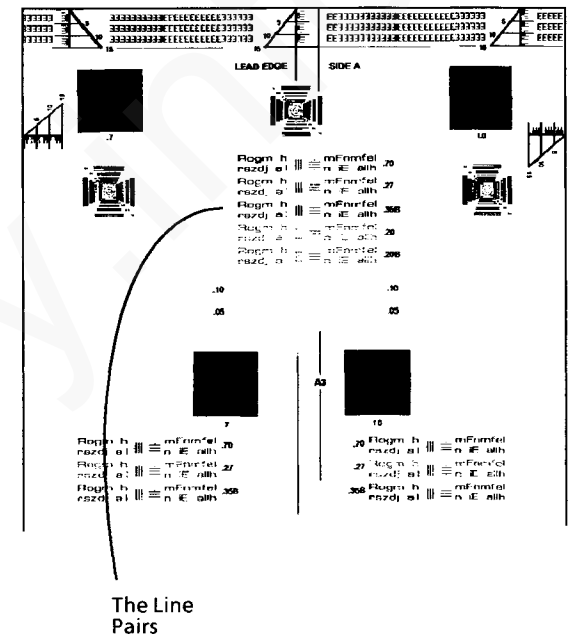

Figure 2. The Copy Density
3. Check the third copy. The **.20** line pairs are just visible and the **.10** line pairs are not visible (Figure 2).
6. Check the third copy. The **.20** line pairs are just visible and the **.10** line pairs are not visible (Figure 2).
9. Check the third copy. The **.20** line pairs are just visible and the **.10** line pairs are not visible (Figure 2).